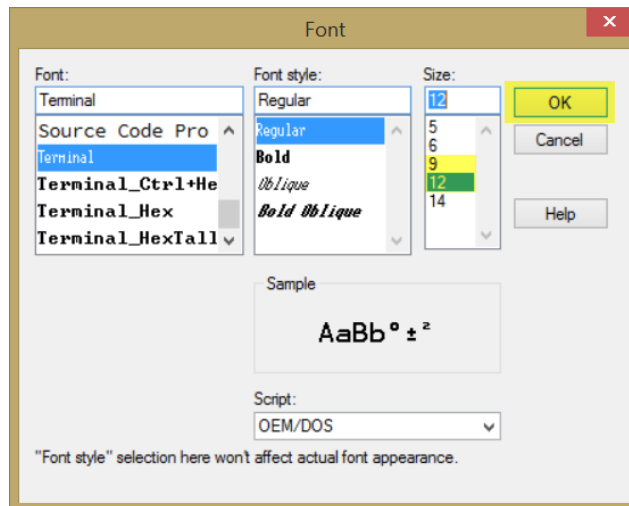

FIGURE E-5. Setting the Font Size
5. By default, *Tera Term* uses a font size of 9. If a larger font size is desired, select **Font** from the drop-down list in **Setup**. Under **Size**, select the desired font size. FIGURE E-5 shows the selection of 12 for the font size. Click on the **OK** button when finished.